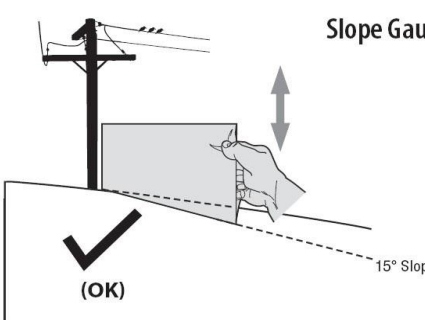
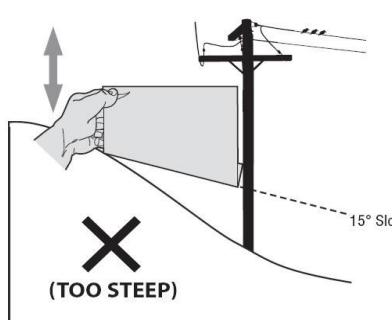

Figure 1
Figure 2
3. Align either side of the slope gauge with the object (see Figure 1 and Figure 2).
4. Adjust gauge up or down until the left corner touches the slope (see Figure 1 and Figure 2).
If there is a gap below the gauge, the slope is too steep for safe operation (see Figure 2 above)